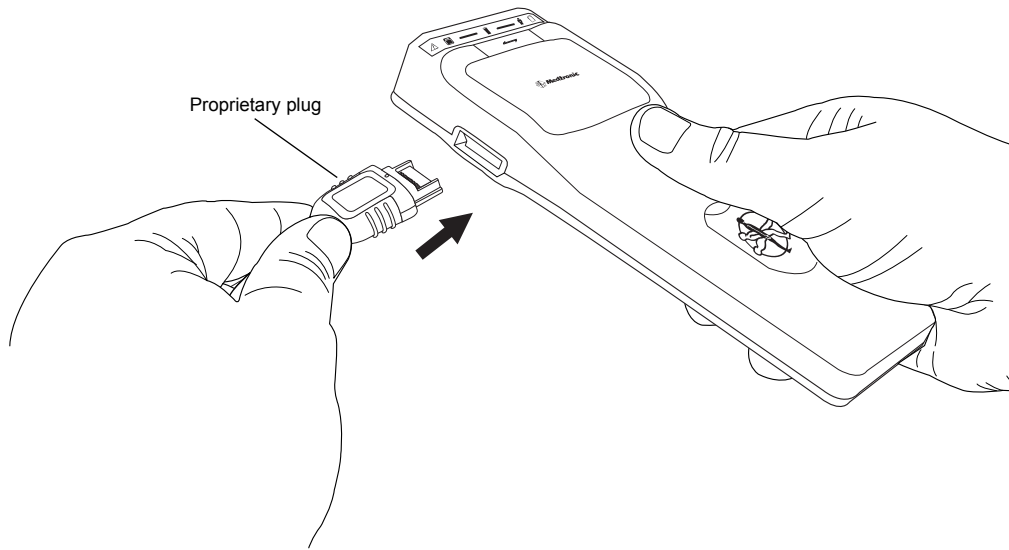

Figure 12. Connecting the USB system connector cable to the telemetry head.
2. Correctly orient the proprietary end of the cable in relation to the proprietary connector on the telemetry head and insert the proprietary plug into the connector (Figure 12).